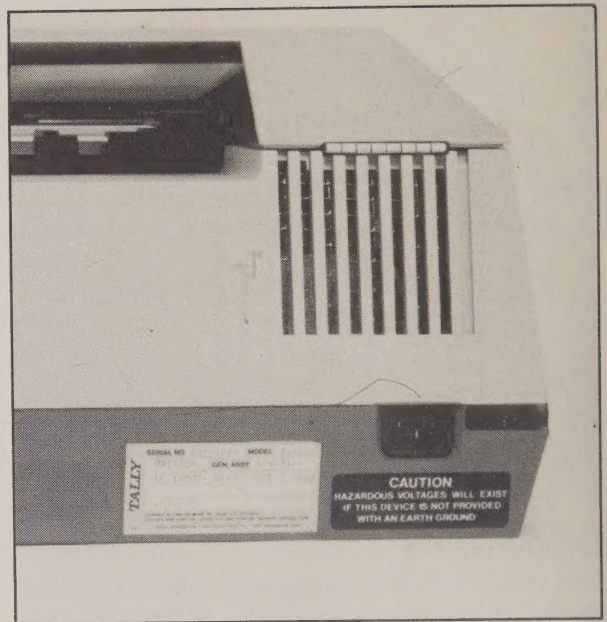

Figure 2-2. Voltage & Frequency Label
6. Check that the local line voltage and frequency to be applied agree with that specified on the label near the power cord receptacle. The location of the label is shown in Figure 2-2.